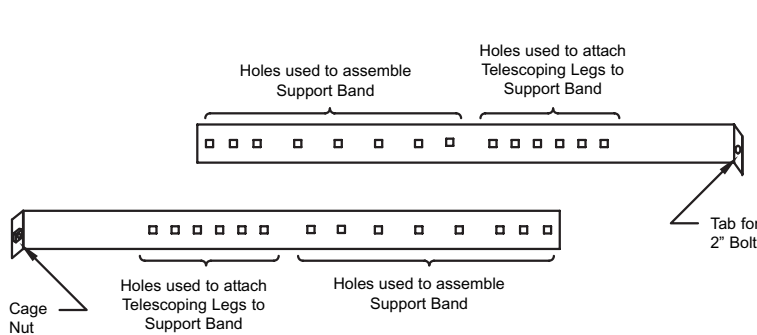

Figure 1 Support Band Holes Identifier
B. From the single row of holes (see Figures 1 and 2), select the hole in each half that corresponds to the outside diameter identified with the chimney being installed. Place the two halves together. Insert an elevator bolt through the chosen holes (Ex - for a 10" OD chimney, place the elevator bolt through the holes identified for 10" OD). The elevator bolt should be oriented as shown in Figure 3. Secure the center bolt with washers and 1/4" flanged nut (see Figure 3). NOTE: On smaller diameter chimneys the excess band material can be cut off.